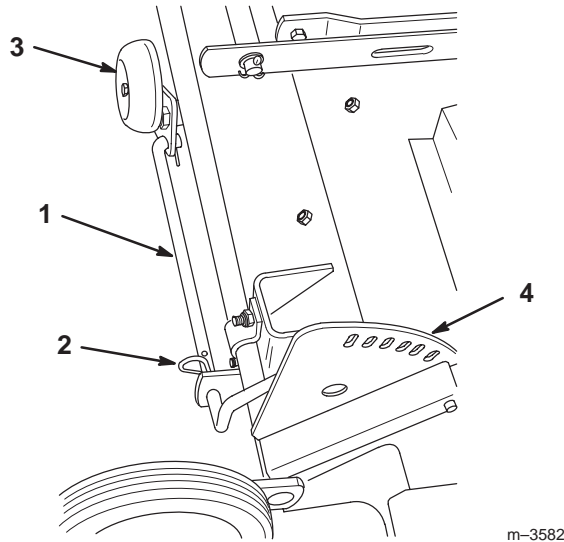

Figure 12
- B. Slide the wheel rod back toward the center wheel as far as it will go. The end of the control rod should no longer be in the hole in the height-of-cut plate (Fig. 12).
- C. Install the hairpin cotter into the wheel rod hole closest to the height-of-cut plate (Fig. 12).